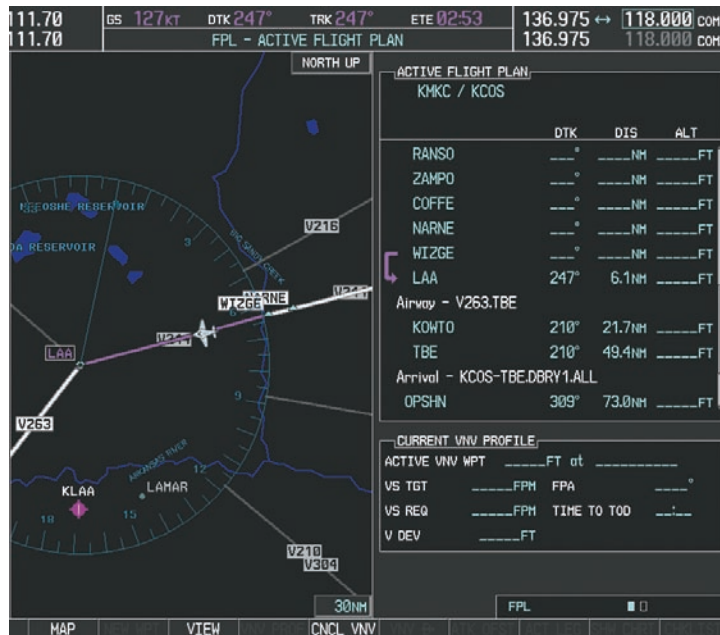

Figure 5-117 HYS to LAA Legs Active
10) At Lamar VOR (LAA) V263 is intercepted. See Figure 5-117.